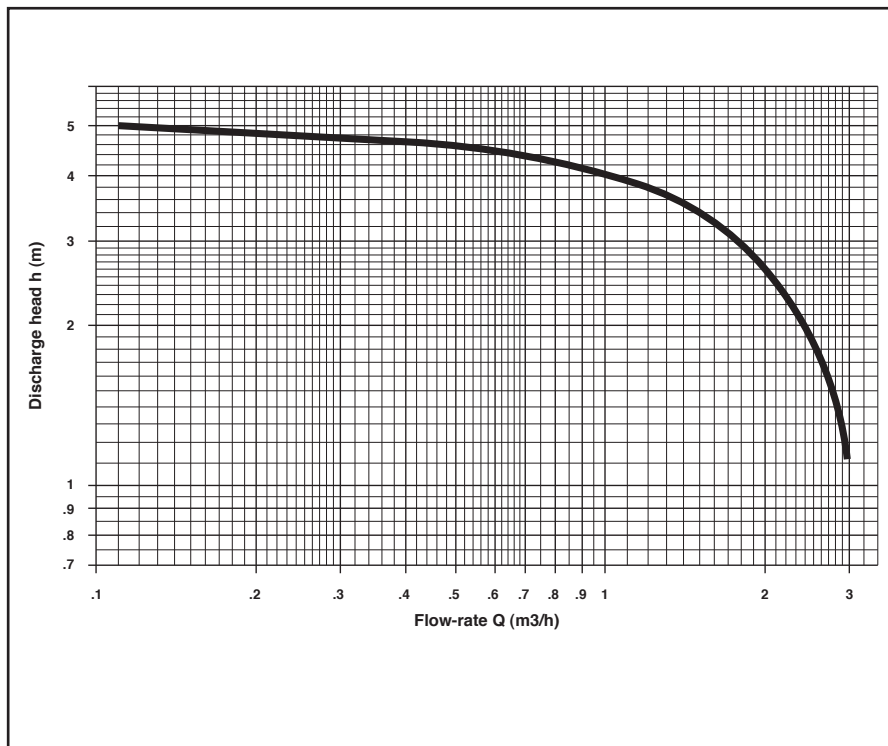

fig. 7
**Note** The diagram in fig. 7 refers to the maximum heating pump discharge head/flow-rate with the speed selector switch in position 3.